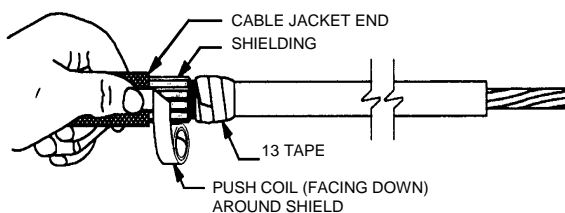

Figure 3
3. Hold the strap in place with thumb. Pull the coil around the cable allowing it to unwrap and rewrap around the shielding and itself (Figure 3). **NOTE:** Cinch (tighten) the applied coil after final wrap.